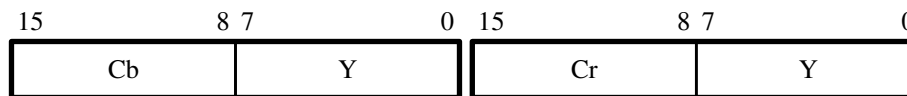

Figure 23. YCrCb 4:2:2 Color Space.
- YCrCb 4:2:2 — This format has only half of the Cr and Cb components. Each consecutive pixel has alternating Cr or Cb components, with the first pixel in the frame starting with the Y and Cb pixel. Figure 23 shows two consecutive pixels for this format. This mode is defined as 8 bits per color and two color planes.